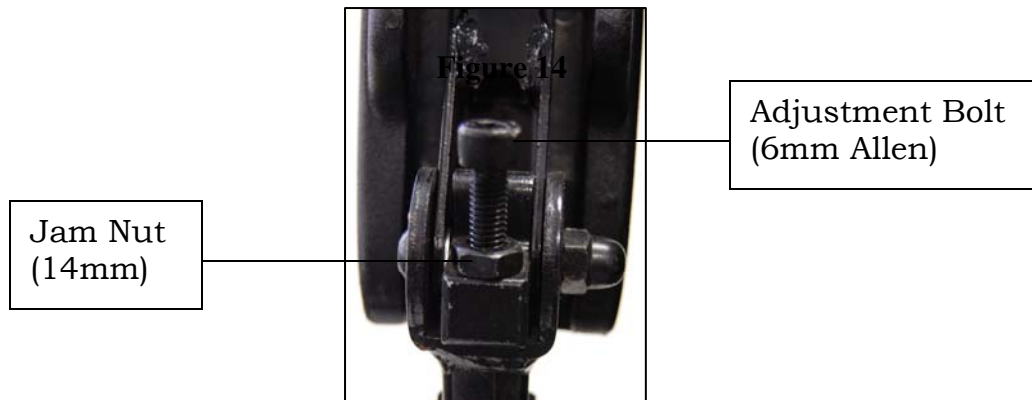

Figure 14
1. Lift armrest up. See figure 14.